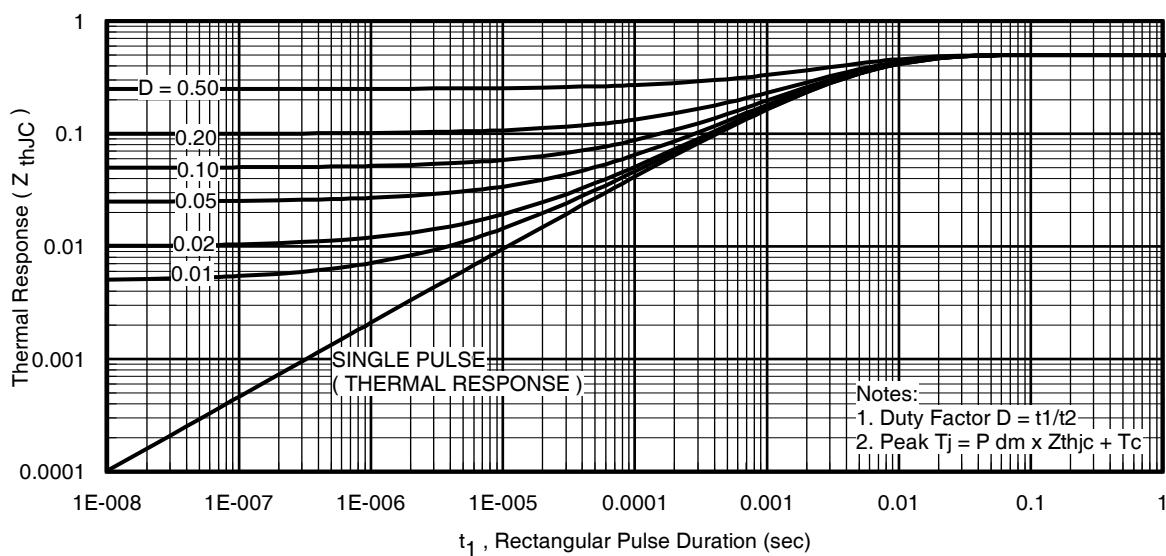
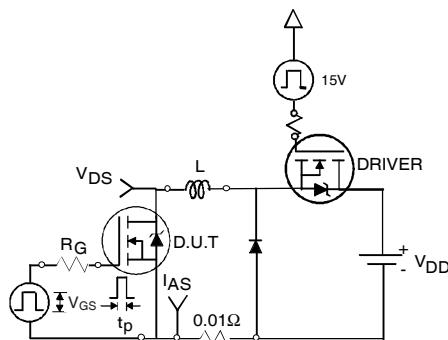

Fig 11. Maximum Effective Transient Thermal Impedance, Junction-to-Case
Fig 12a. Unclamped Inductive Test Circuit
- ① Repetitive rating; pulse width limited by max. junction temperature. (See fig. 11).
- ② Limited by $T_{J\text{max}}$, starting $T_J = 25^\circ\text{C}$, $L=0.24\text{mH}$, $R_G = 25\Omega$, $I_{AS} = 75\text{A}$, $V_{GS} = 10V$. Part not recommended for use above this value.
- ③ $I_{SD} \leq 75\text{A}$, $di/dt \leq 220\text{A}/\mu\text{s}$, $V_{DD} \leq V_{(\text{BR})\text{DSS}}$, $T_J \leq 175^\circ\text{C}$.
- ④ Pulse width $\leq 1.0\text{ms}$; duty cycle $\leq 2\%$.
- ⑤ $C_{oss \text{ eff.}}$ is a fixed capacitance that gives the same charging time as C_{oss} while V_{DS} is rising from 0 to 80% V_{DSS} .
- ⑥ Limited by $T_{J\text{max}}$, see Fig.12a, 12b, 15, 16 for typical repetitive avalanche performance.
- ⑦ This value determined from sample failure population. 100% tested to this value in production.
- ⑧ This is applied to D²Pak, when mounted on 1" square PCB (FR-4 or G-10 Material). For recommended footprint and soldering techniques refer to application note #AN-994.
- ⑨ Max $R_{\text{DS(on)}}$ for D²Pak and TO-262 (SMD) devices.
- ⑩ TO-220 device will have an R_{th} value of $0.45^\circ\text{C}/\text{W}$.
3. Equation below based on circuit and waveforms shown in Figures 12a, 12b.
- $Z_{thJC}(D, t_{av})$ = Transient thermal resistance, see figure 11